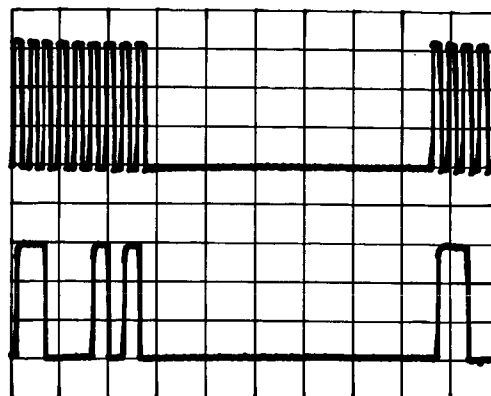

Figure 8-37. A2A10 HNR2 Test Point
- 23. Connect channel 2 to A2A10TP HNR2. The waveform should be as shown in Figure 8-37.